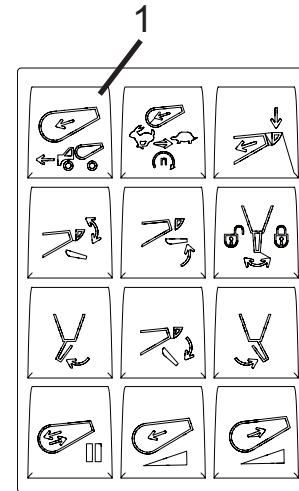

Figure 42
1. To manually engage CONSTANT SPEED mode, press the CONSTANT SPEED button on the optional in-cab keypad (Figure 42, Item 1). The button indicator will illuminate when mode is selected. All other mixer drum inputs are disabled while this mode is activated.